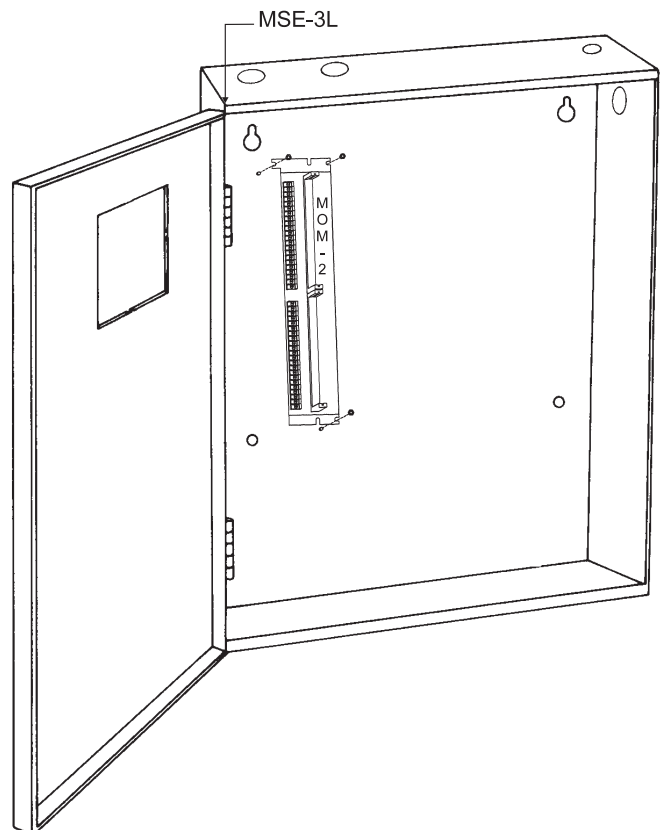

Figure 5
The MOM-2 mounts **vertically** in the **MSE-3L** enclosure as shown in Figure 5.
2. Place the module vertically on the mounting studs near the top left of the enclosure as shown in Figure 5.